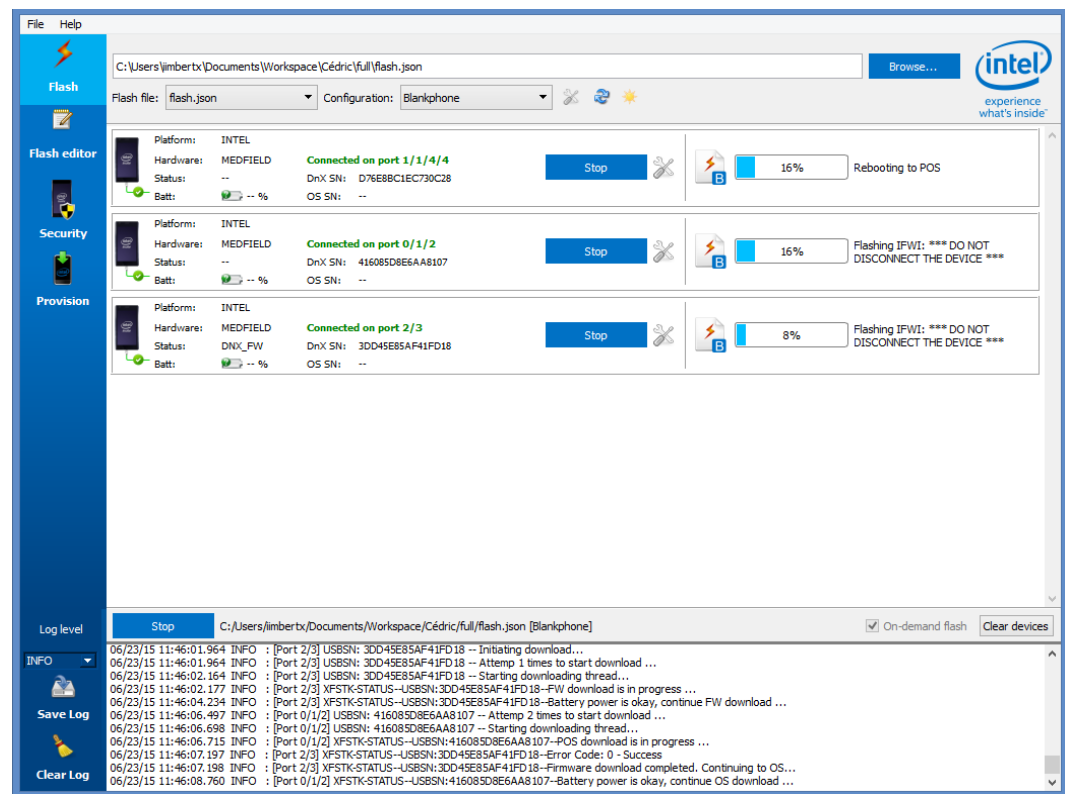

Figure 4-11: Flash blank configuration in parallel
4. When a device is plugged, the flash procedure starts automatically (Figure 4-11).